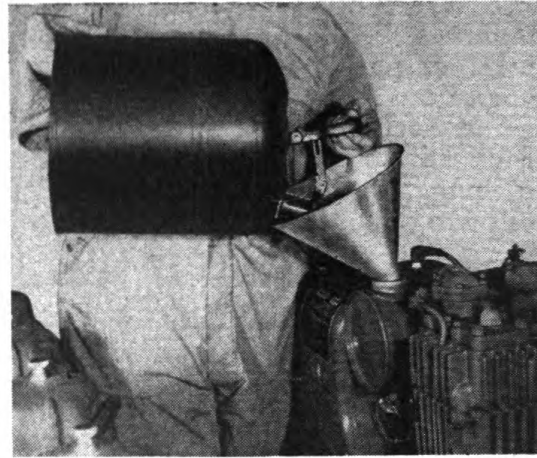

Figure 5
2. Fill the engine fuel tank with a good quality gasoline free from dirt and water (See Figure 5). The gasoline should have an octane rating of at least 67. (Tank capacity 1⅓ gal.)